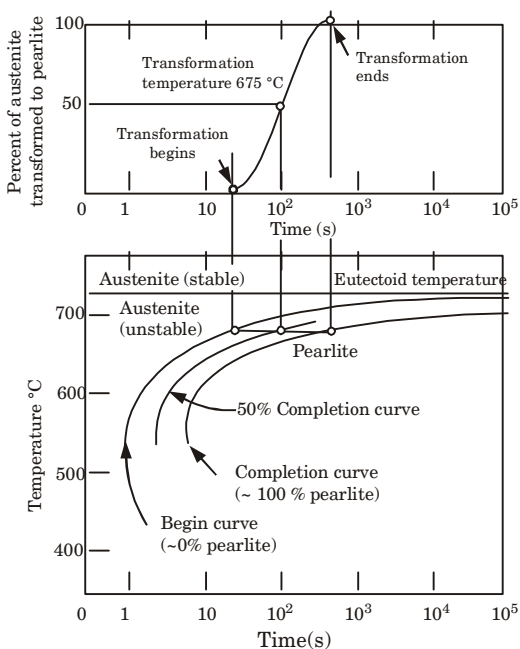

Fig. 4. TTT diagram.
- In the (Fig. 4) transformation of austenite to pearlite is shown. The left most C-curve shows the starting of transformation of austenite into pearlite.